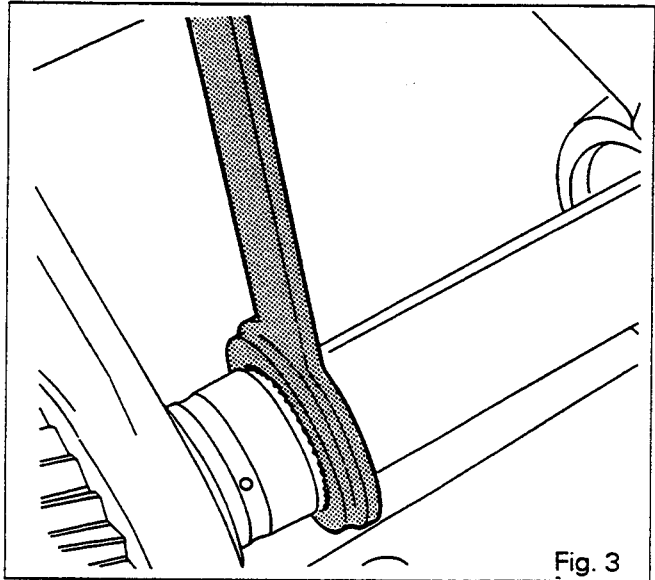
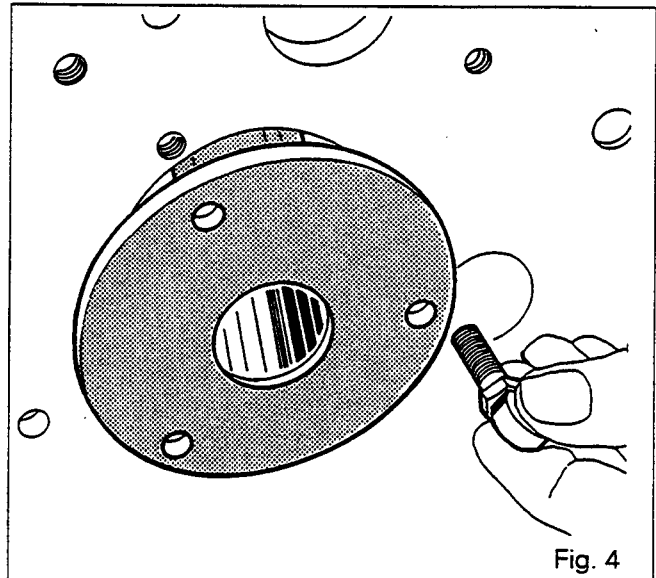
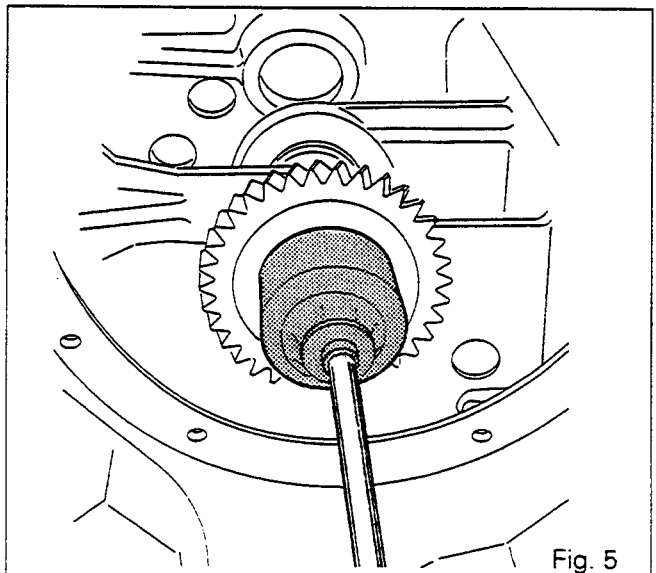
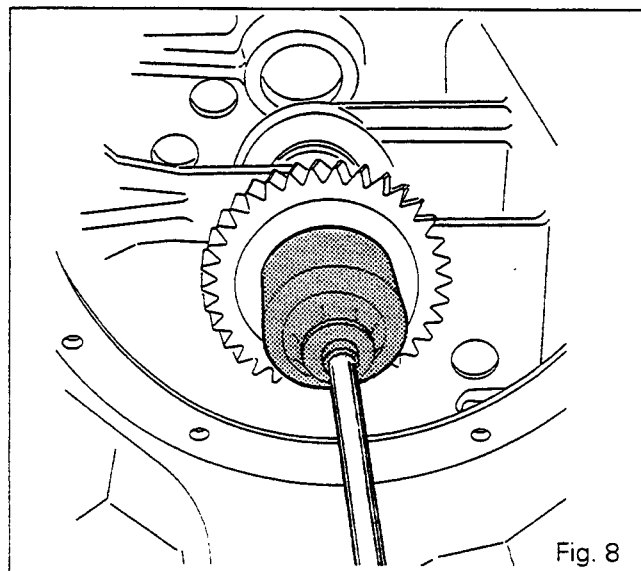

Fig. 3
Fig. 4
Fig. 5
Fig. 8
12. Position the retaining tool MF 458 (Fig. 3) and the locally manufactured holding sleeve for the mainshaft (69) (Fig. 4). (See part D).
13. Remove the oil feed pipe (71) and spring (72).
14. Unlock the nut (68) and loosen it using socket 3378010 M1 (Fig. 5).
15. Remove the input gear (67) and cone (1).
16. Remove the washer (6).
17. Remove tool MF 458 and the sleeve (Fig. 3 and 4).
19. From inside the housing and in the following order, remove: the 2nd gear (14) with bush (8), cone (13), 2nd gear synchromesh ring (12), 1st and 2nd synchromesh (11), cone (9), 1st gear synchromesh ring (10), the cone (9) and the 1st gear (7).
20. Withdraw the cups (16) and (2).
33. Fit the retaining tool MF 458 and the locally made holding sleeve (Fig. 3 and 4).
34. Fit the washer (6).
35. Fit the cone (1) onto the gear (67).
36. Fit the gear (67) onto the shaft (69).
37. Fit the nut (68) using the special socket 3378010M1. Tighten to a torque of 130 - 170 Nm (Fig. 8).